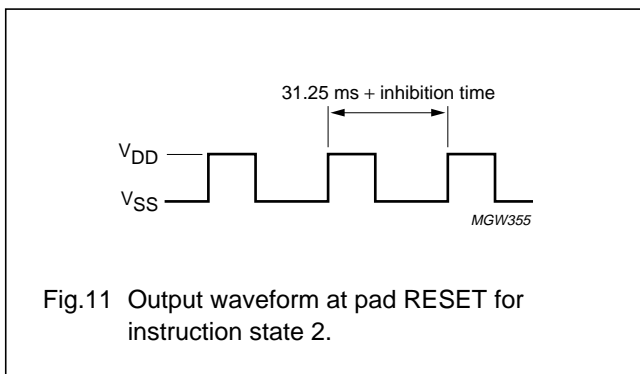

Fig.11 Output waveform at pad RESET for instruction state 2.
- State 2: inhibit time (see Figs 11 and 12); a signal with periodicity of 31.25 + n × 0.122 ms appears at pad RESET and as current modulation at pad V_{DD}.